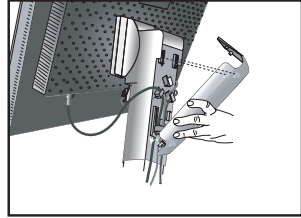

Figure 7
6. Hold all of the cables firmly and place the cable cover onto the stand (Figure 7).